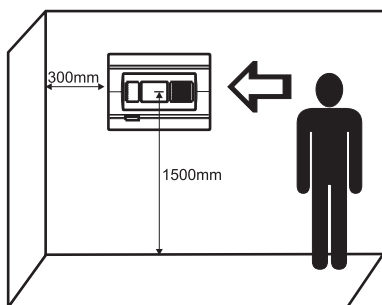

Figure 1
- The panel must be installed in a clean dry place and must not be subjected to impacts or vibrations (Figure 1). It must be situated far from heating appliances. The temperature must be within -5°C and +40°C. The fire panel is not water-proof!